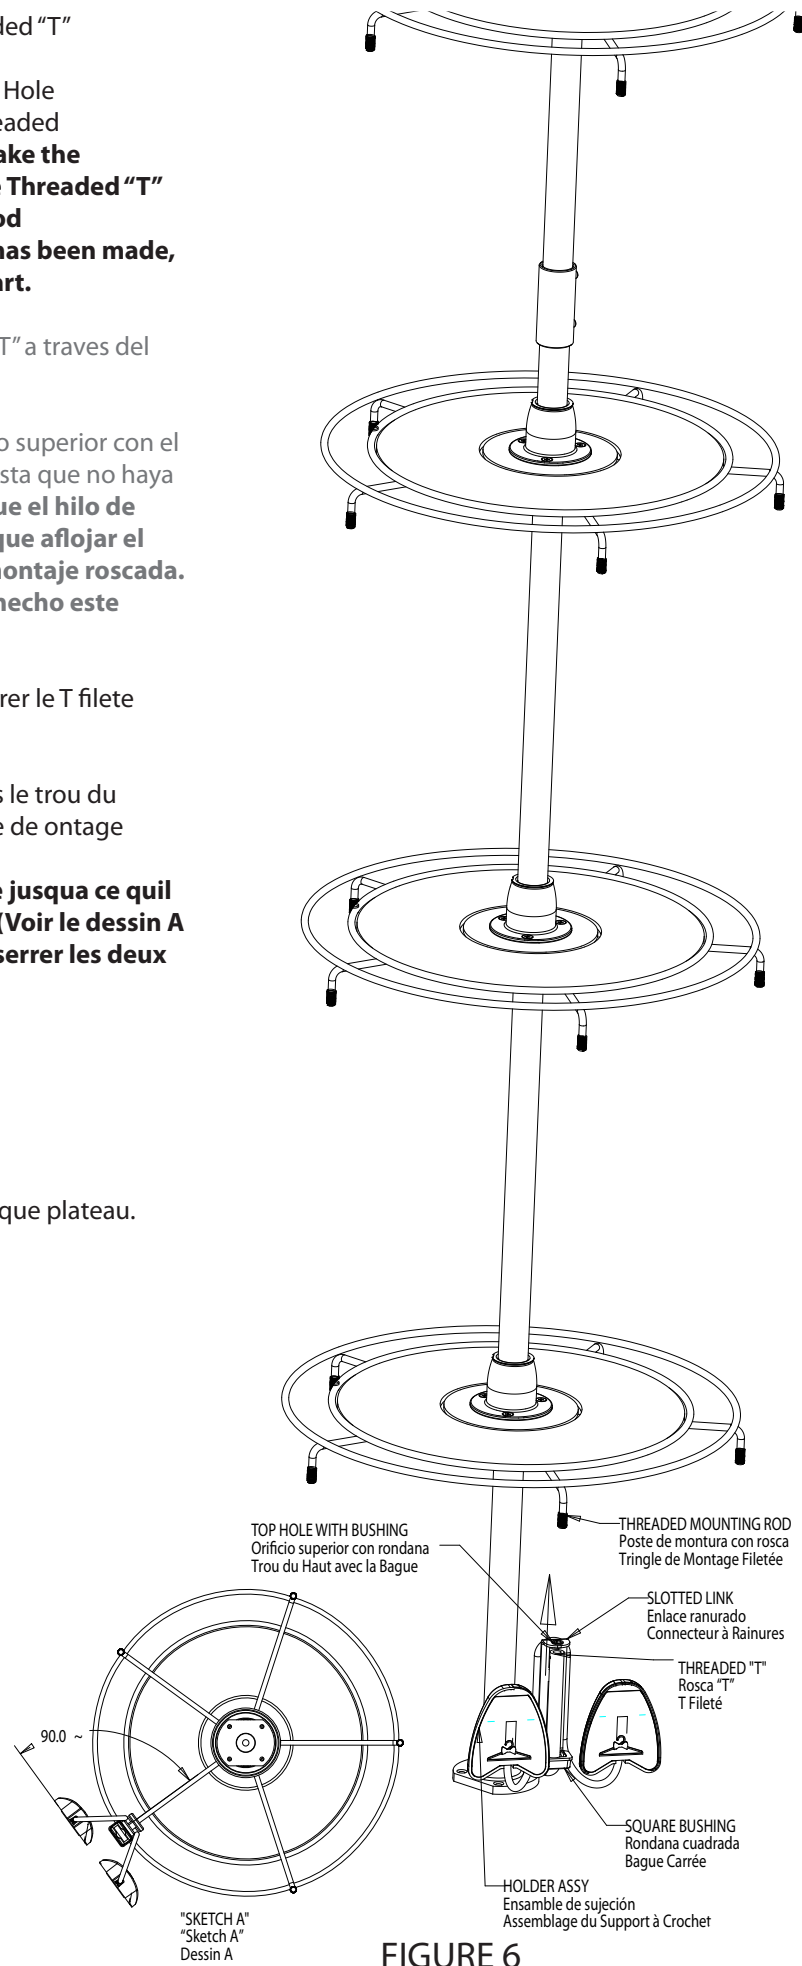

FIGURE 6
- B.** Insert the threaded mounting rod thru the Top Hole with bushing and thread the Threaded “T” onto the Threaded Mounting Rod until no threads are visible. **NOTE: To make the assembly align correctly you may have to loosen the Threaded “T” until it is perpendicular to the threaded mounting rod “SEE SKETCH A” In figure 6. When this adjustment has been made, tighten both of the set screws in the Threaded “T” part.**